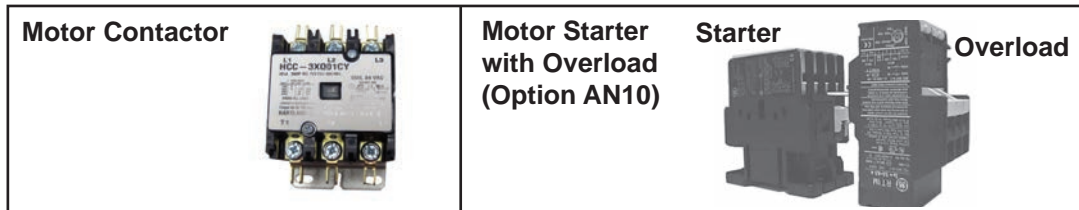

Figure 11. Motor Contactor and Starter (Refer to Table 14, Table 15, and Table 16)
- The motor contactor (see Figure 11) used on single-speed blower motors is PN 216386 (replaces PN 119625) and the starter is option AN10 (see Figure 11).
- Single-speed blower motors are listed by type, HP, and voltage. **Highlighted motors in Table 14, Table 15, and Table 16 do not have internal overload protection and MUST be used with the starter and overloads listed unless the unit is equipped with a variable frequency drive (item 9, Table 3).**